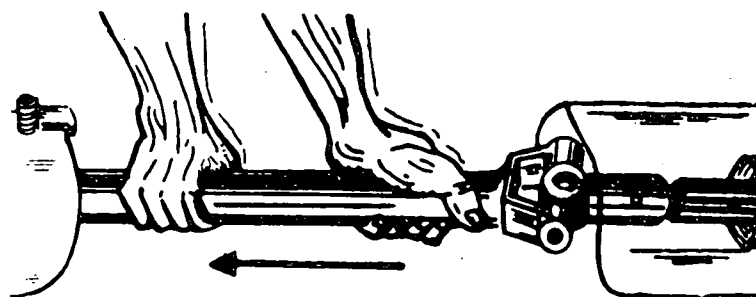

Fig. 2
- b) Uncouple the drive shaft (Fig. 2).